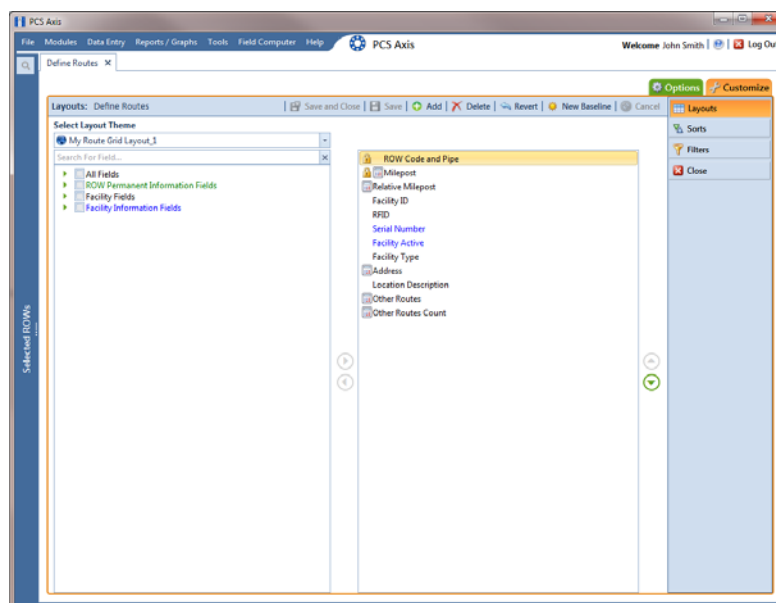

Figure 7-44. Layouts
- 7 Click  **Save** to save changes. The layout theme includes all fields listed in the right pane (Figure 7-44, page 330).